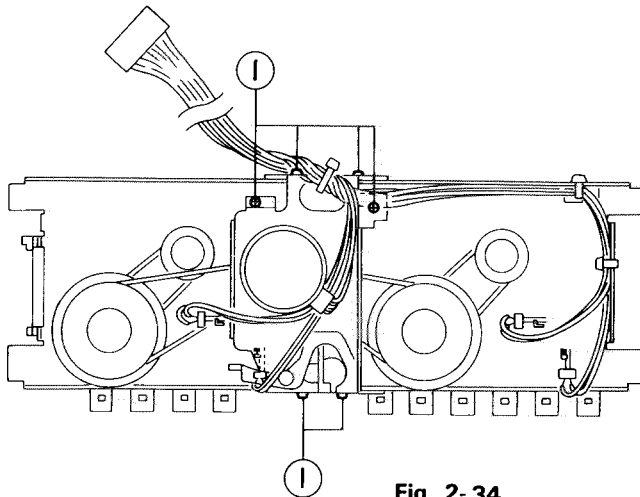
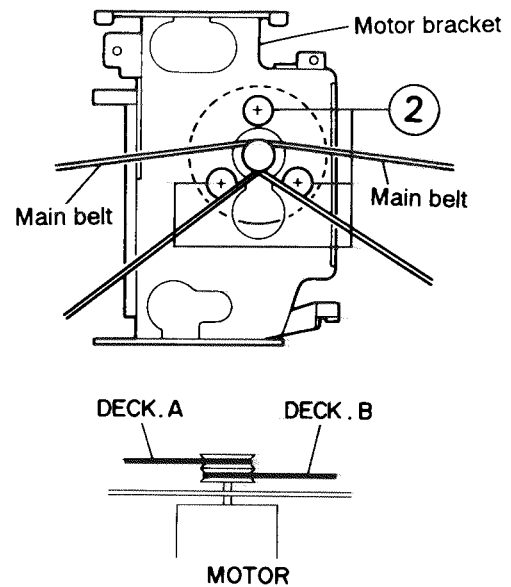

Fig. 2-34
Fig. 2-35
■ **Capstan motor (Fig. 2-34, Fig. 2-35)**
4. Remove six screws ① retaining the motor bracket from the back of the cassette mechanism.
6. Remove six screws ② retaining the Capstan motor from the back of the cassette mechanism.